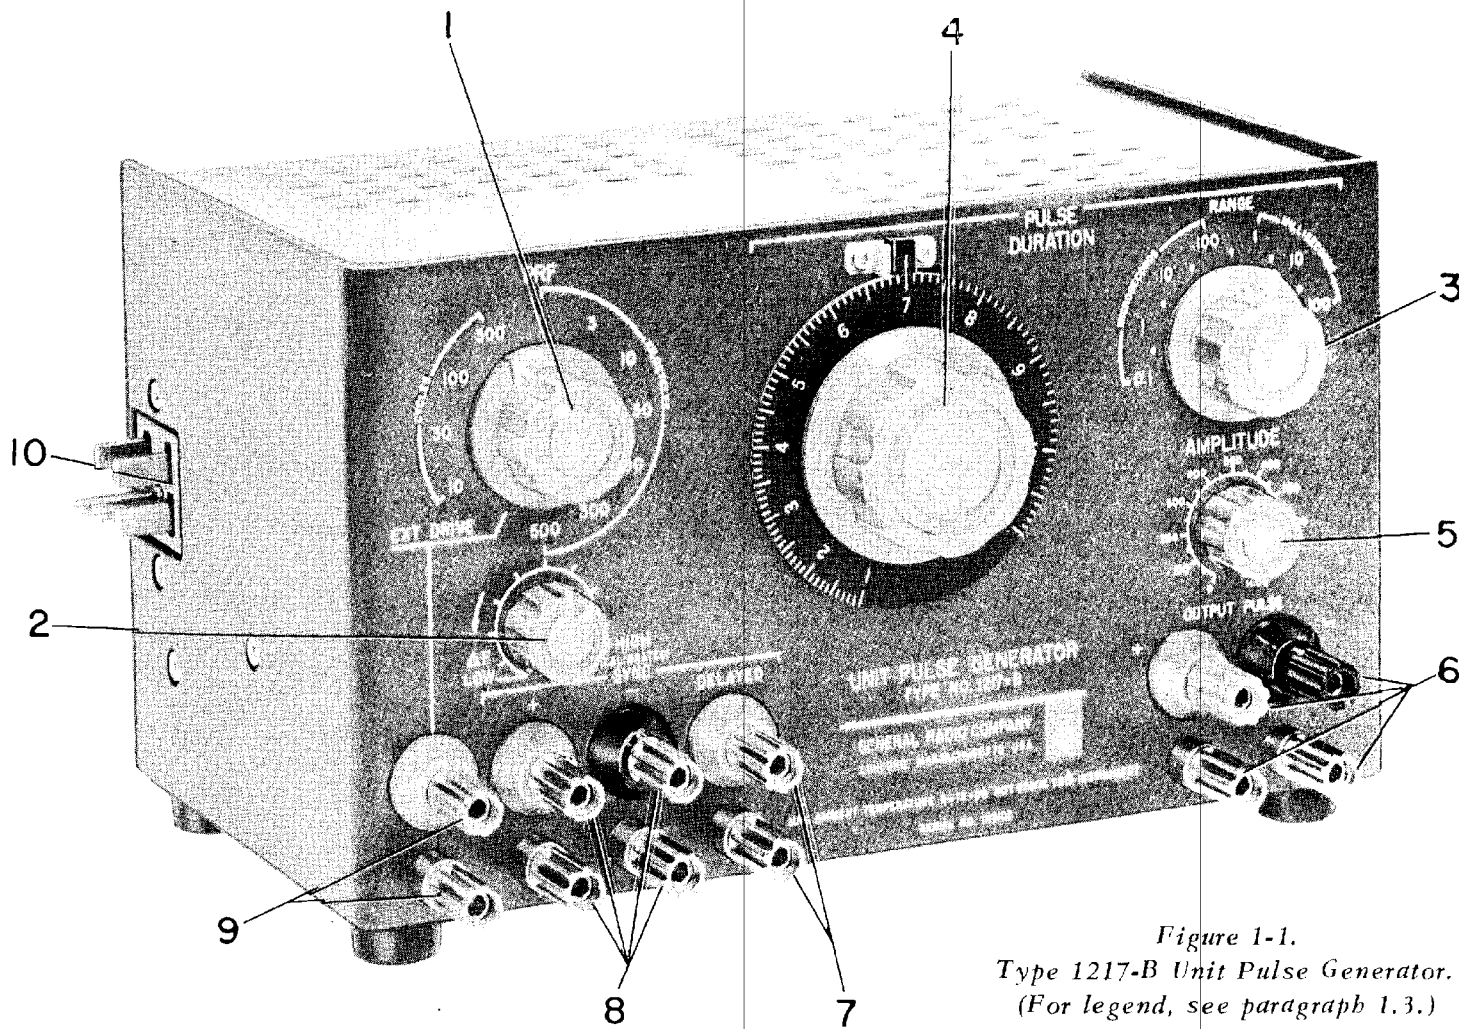

Figure 1-1.
The Type 1217-B Unit Pulse Generator (Figure 1-1) is a general-purpose instrument intended primarily for laboratory use. The repetition rates of pulses may be either internally controlled, at frequencies from 2.5 to 500,000 cycles per second, or controlled by an external signal source, at rates up to 1 megacycle. In addition to the main positive and negative output pulses, the instrument also supplies synchronizing pulses corresponding to the beginning and end of the main pulse. The early synchronizing pulse ("prepulse") is intended chiefly for synchronizing an oscilloscope with the Pulse Generator, while the late ("delay") pulse makes the instrument an accurate time-delay generator.
2.2.1 PRF ADJUSTMENT. The pulse repetition frequency is adjusted by the PRF controls (1 and 2, Figure 1-1), over a range of from 2.5 cps to 500 kc. The PRF switch is calibrated to indicate PRF correctly only when
2.2.2 PULSE DURATION ADJUSTMENT. Duration of the main pulse is adjusted by the PULSE DURATION controls (3 and 4, Figure 1-1). The RANGE switch (3) selects one of seven decade ranges, and the range selected is covered by the PULSE DURATION control. This control consists of a knob linked by a slow-motion drive to a dial that is calibrated from 1 to 11 in tenths of a unit. The overlap beyond the decade span is provided to ensure continuous coverage of all durations.